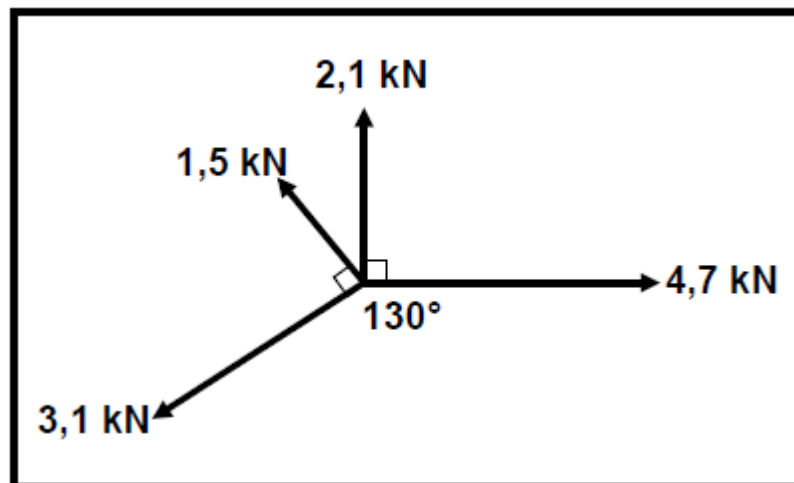

FIGURE 2.3
2.3. A system of forces is shown in FIGURE 2.3. Determine, by means of calculations, the magnitude and direction of the resultant for the system of forces in FIGURE 2.3